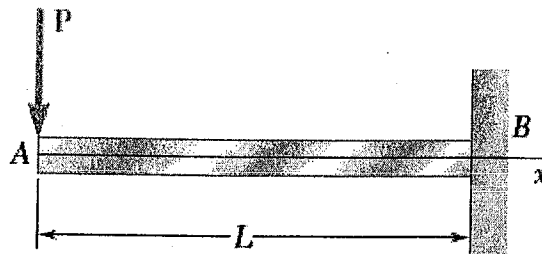

Figure 6
6. The cantilever beam AB shown in Figure 6 is of uniform cross section and carries a load P at its free end A. Determine the equation of the elastic curve and the deflection and slope at A. (25 marks)